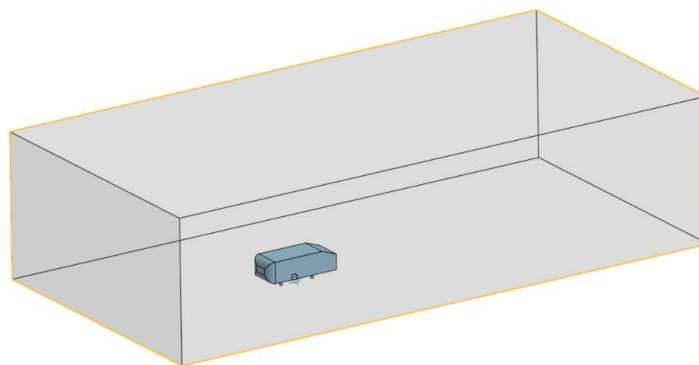

Figure 1.3: Enclosed Ahmed body.
- 7) The model should now look similar to figure 1.3 shown below.